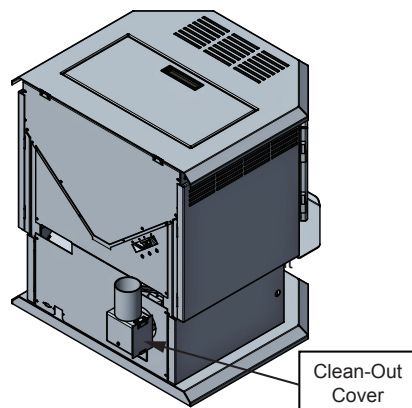

Figure 5
- After performing regular cleaning of venting, open the clean-out cover and vacuum out debris; close when complete (Figure 5).